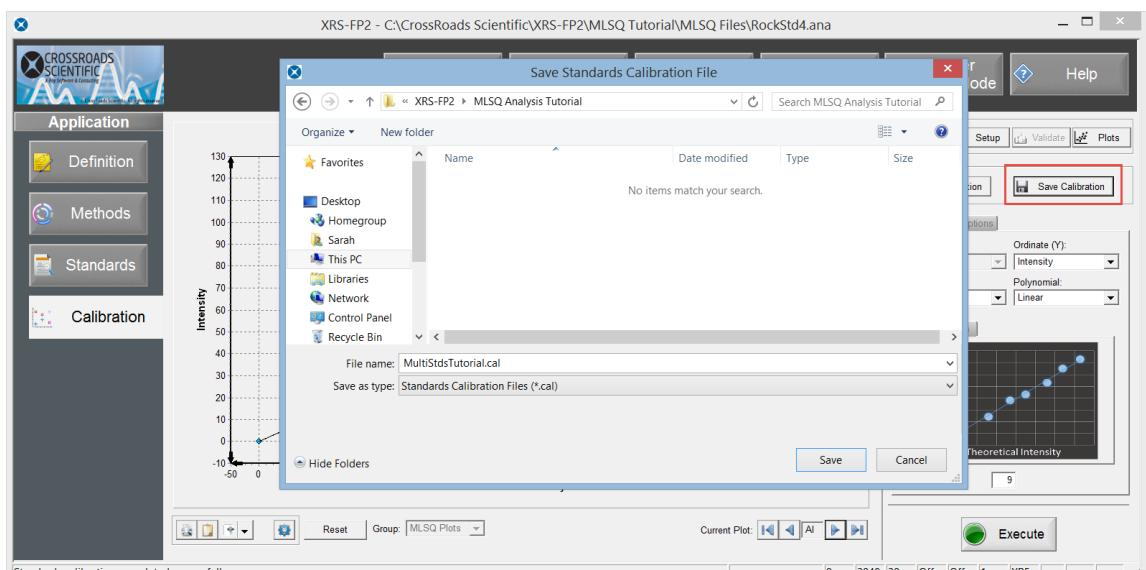

Figure 8. Save MLSQ Calibration. Save the full MLSQ calibration (a *.cal file and an *.ana file) using the “Save Calibration” button.
- Now click the **Save Calibration** button (see Fig. 8 below) to save the full MLSQ calibration. This will save 2 files. The *.cal file contains a list of all the ANA files used in the calibration along with the chosen model. The *.ana file contains all the secondary coefficients necessary to generate TCC values over the range of the calibration standards. For example, the two files saved in this tutorial are the default names: “MultiStdsTutorial.cal” and “MultiStdsTutorial.ana”. Save these files in this location: C:\CrossRoads Scientific\XRS-FP2\MLSQ Analysis Tutorial. Click “OK” to continue and to acknowledge that the two files, “MultiStdsTutorial.cal” and “MultiStdsTutorial.ana” have been saved.